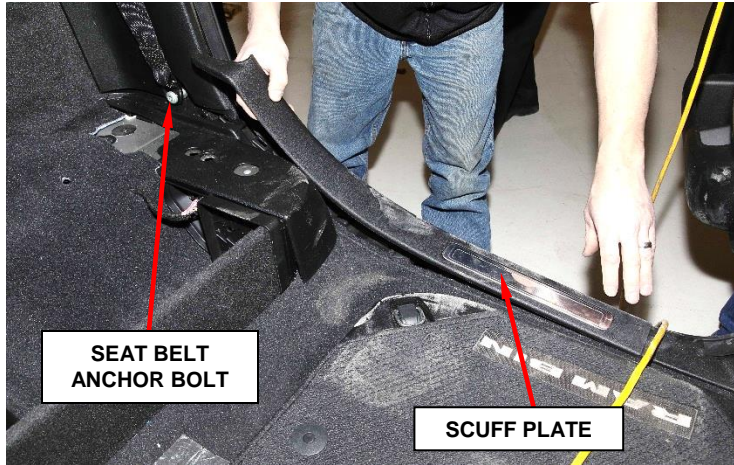

Figure 4 – Scuff Plate Removal
8. Remove the scuff plates on both sides (Figure 4).
9. Remove the lower seat belt anchor bolts from both sides (Figure 4).
6. Install the scuff plates on both sides (Figure 4).
7. Install the lower seat belt anchor bolts and tighten to 48 N·m (35ft. lbs.) (Figure 4).
4. Remove the scuff plates on both sides (Figure 4).
5. Remove the lower seat belt anchor bolts from both sides (Figure 4).
5. Install the scuff plates on both sides (Figure 4).
6. Install the lower seat belt anchor bolts and tighten to 48 N·m (35ft. lbs.) (Figure 4).